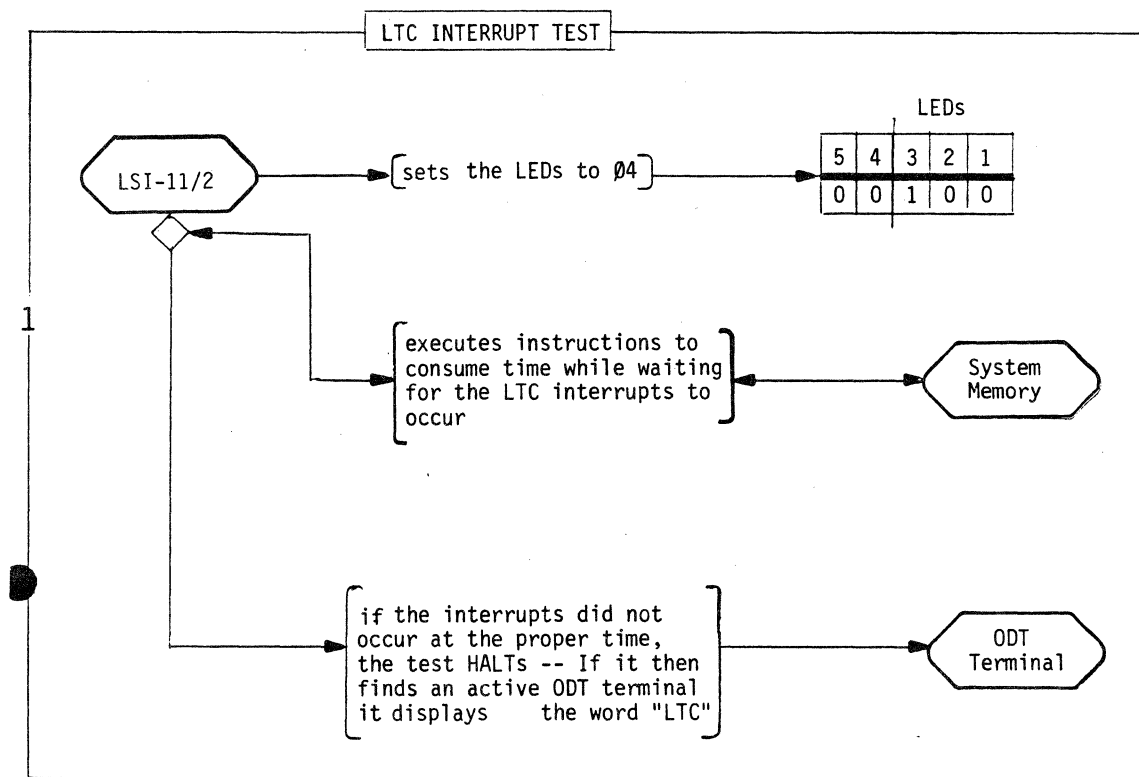
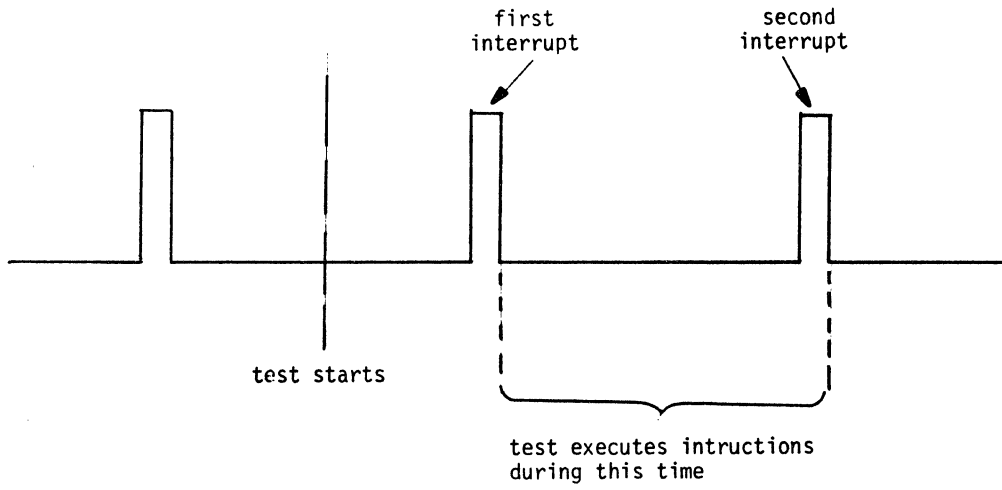

Fig. 3-16. The LTC test.
Fig. 3-17. LTC test interrupts.
1. LTC TEST (Fig. 3-16). The LTC test starts by setting the LEDs to 04 and enabling the interrupts. The test then detects the first interrupt, fetches a series of instructions with known execution times from the system memory, and executes them (see Fig. 3-17). When the second interrupt arrives all instructions should have been executed. If the second interrupt is either too late or too early, the test HALTs the LSI-11/2 and the LEDs remain set at 04. If the test finds an active ODT terminal, it also displays the message "LTC".